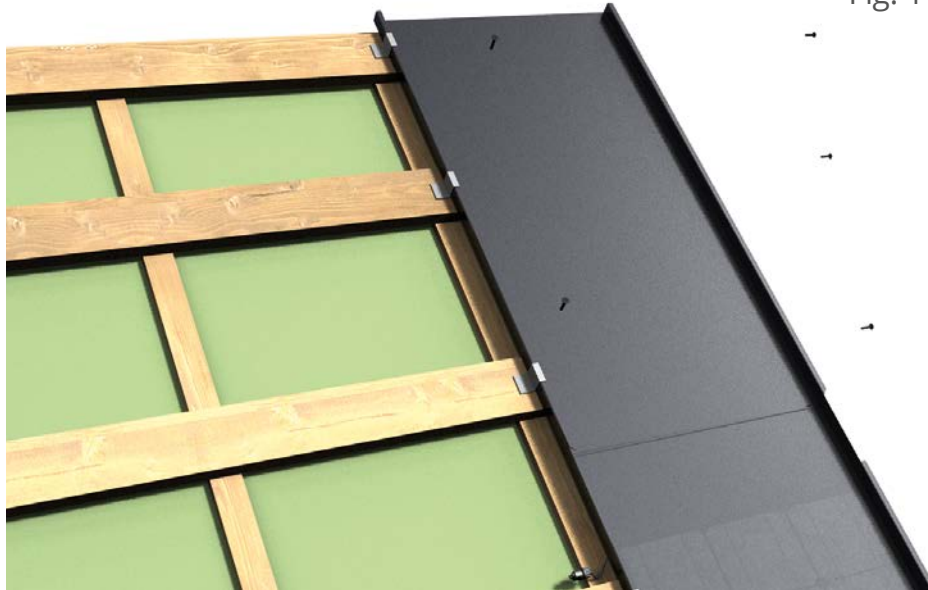

Fig. 14
- e.** Then placing folded part of regular metal panel that was prepared under the fastened small overlapping element (Fig. 14).